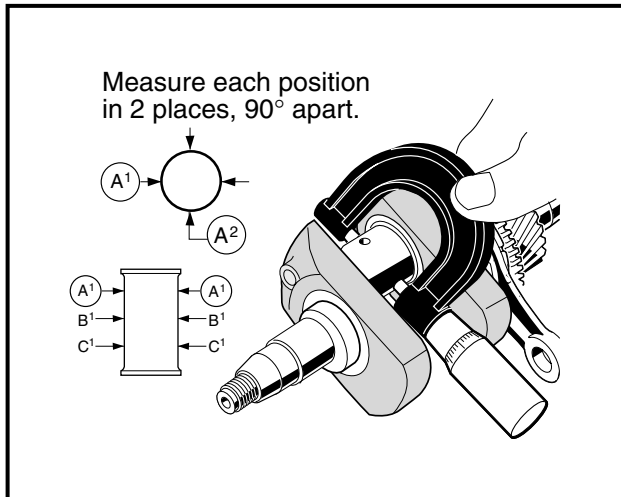

Figure 13-83 Measure Connecting Rod Journal
4. Using a micrometer, measure the connecting rod journal at several points along its length (**Figure 13-83, Page 13-40**).